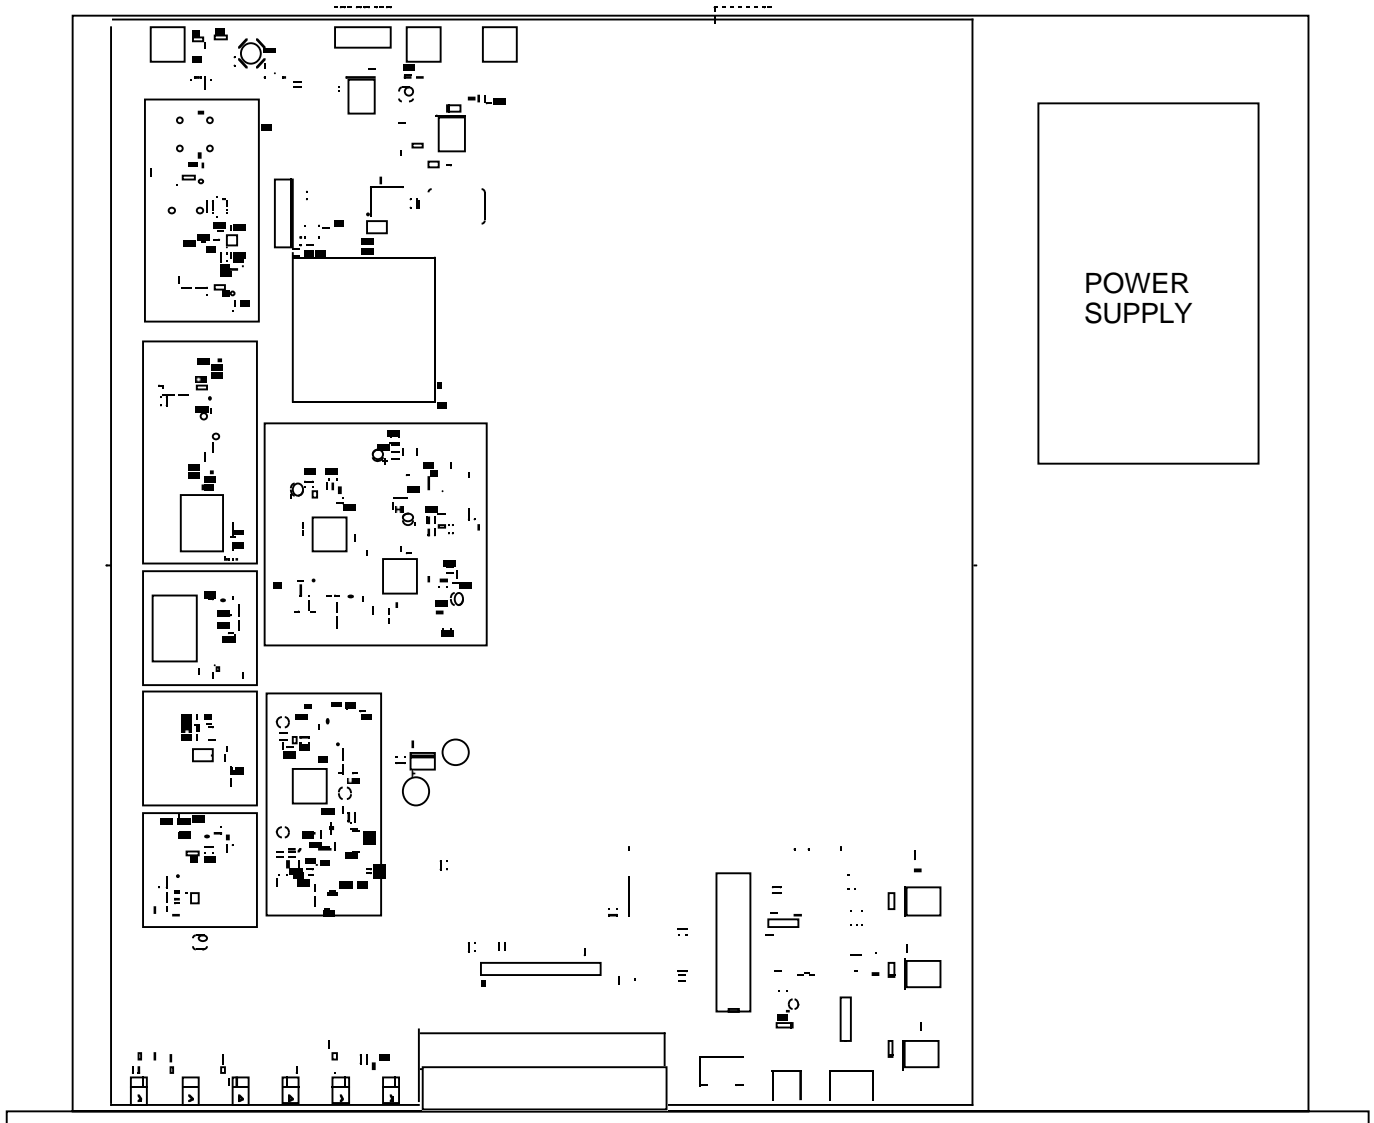

FIGURE 2.1 Mechanical Assembly
2.1 Mechanical - The 2015-95 consists of one RF/Controller PCB housed in a 1 RU (1 3/4 inch high) by 16 inch deep chassis. A switching, ± 12 , $+24$, $+5$ VDC power supply provides power for the assemblies. The 2015-95 can be secured to a rack using the 4 holes on the front panel. Figure 2.1 shows how the 2015-95 is assembled.